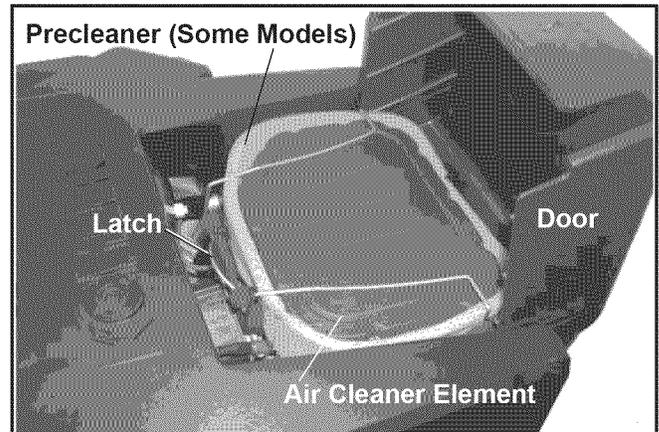

Figure 10. Courage Air Cleaner System.
These engines are equipped with a replaceable, high density paper air cleaner element. Some engines are also equipped with an oiled, foam precleaner which surrounds the paper element. See Figures 10 and 11. Two different capacity air cleaner systems are available.
1. Open the door on the blower housing to access the air cleaner element and precleaner. See Figures 10 and 11.